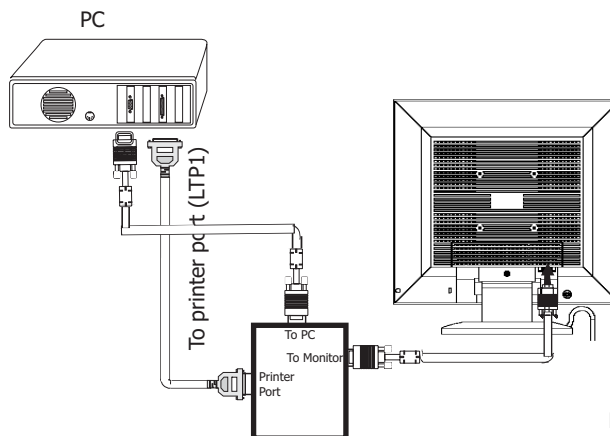

Fig. 4
Step 1: Connecting printer cable and D-Sub cable of monitor as Fig. 4